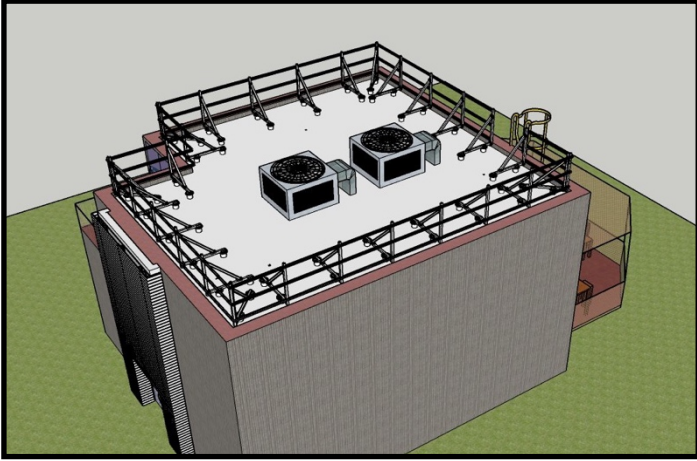

Fig 14
12. Complete installing all of the Hat Tracks as shown in Fig 14.